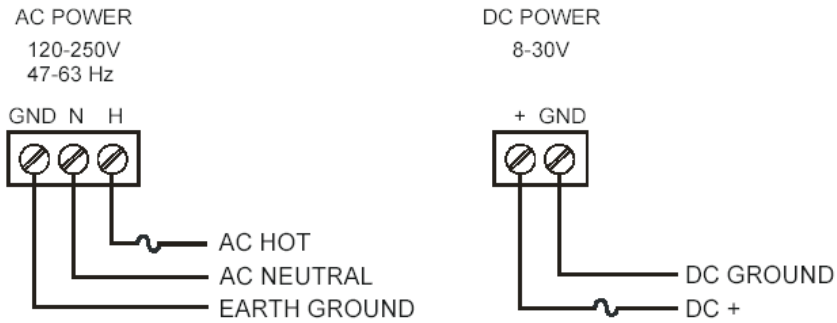

Figure 3. Power Connections
- Use three-terminal power connector as shown in Figure 3.
- Use two-terminal power connector as shown in Figure 3